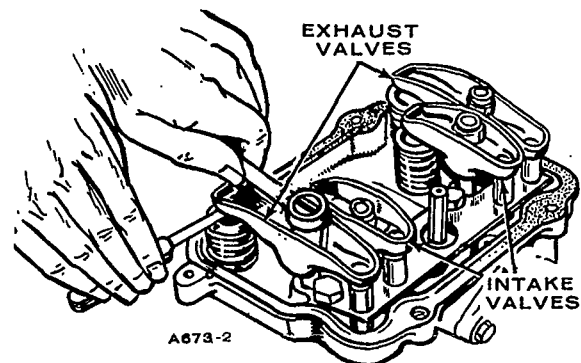
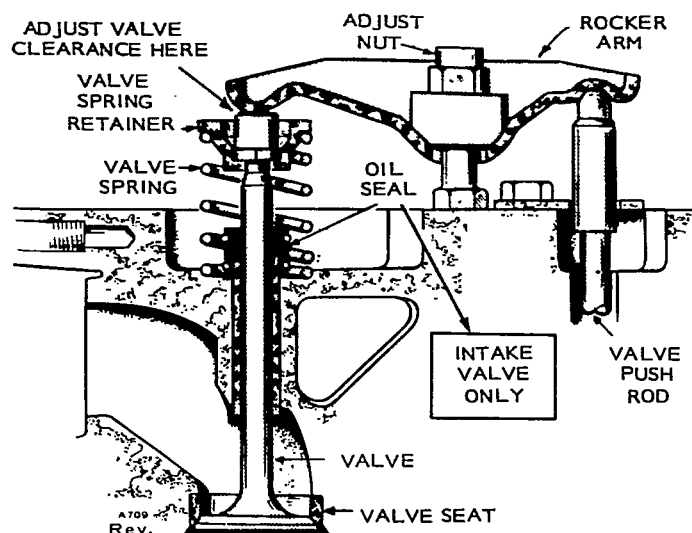

FIGURE 41. CHECKING VALVE CLEARANCES
FIGURE 42. SETTING VALVE CLEARANCE
- Using a feeler gauge, check clearance between rocker arm and valve, Figure 41. Increase or reduce clearance until proper gap is established; adjust with lock nut which secures rocker arm to cylinder head, Figure 42. Refer to SPECIFICATIONS for correct valve clearance setting for your particular engine.
9. Set valve clearance. See Figure 42.